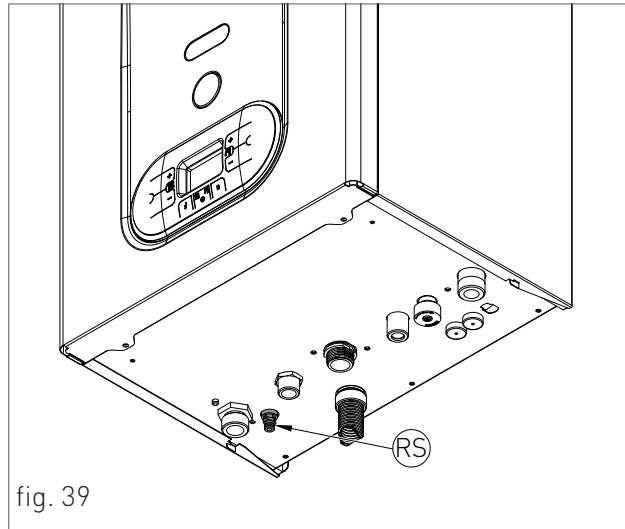

fig. 39
- › turn the discharge tap of the system 'RS' (fig. 39);